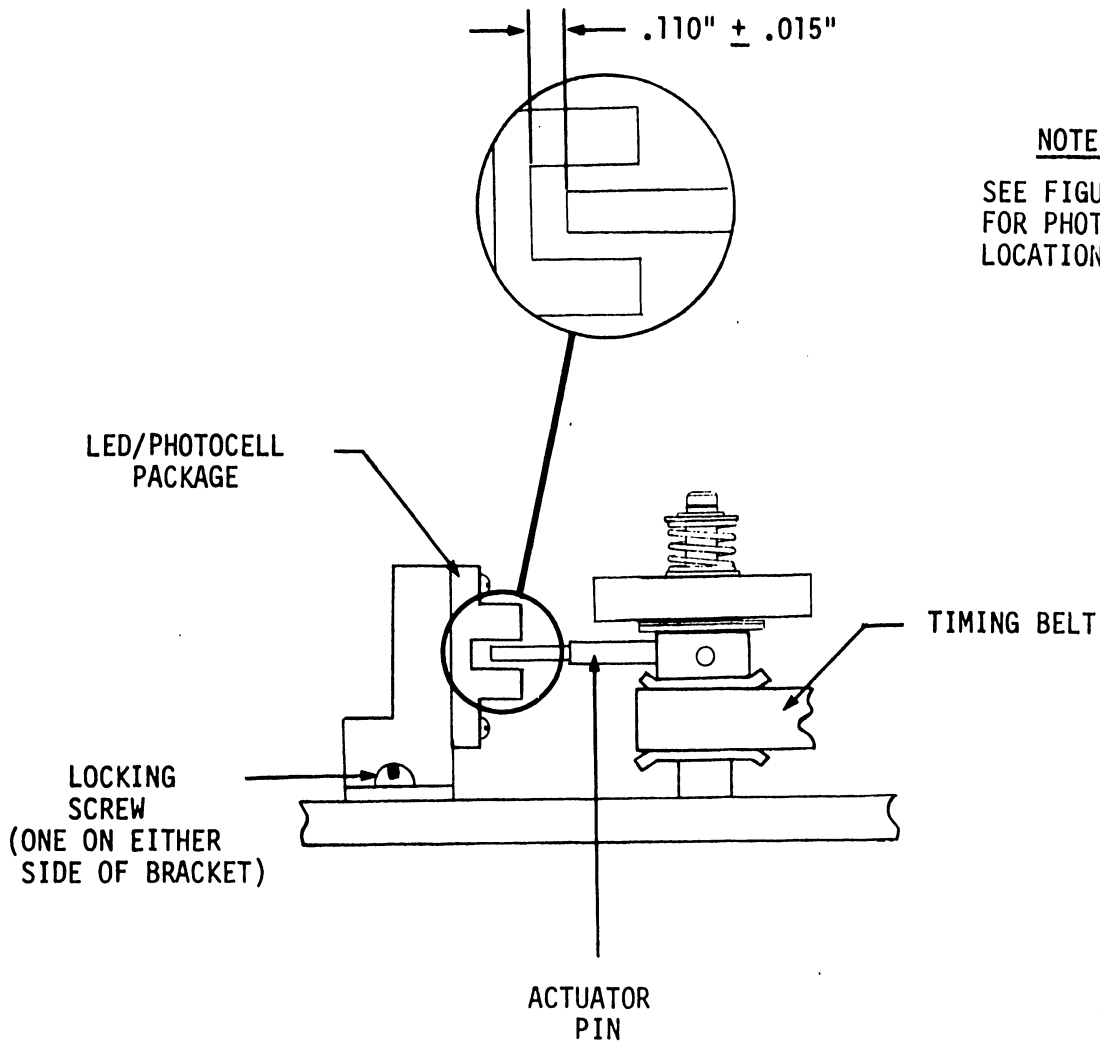

FIGURE 25
- 1) With the photo actuator pin engaged within the LED/photocell package there should be a clearance of $.110" \pm .015"$ from the tip of the actuator pin to the inside edge of the photocell package (See Figure 25).